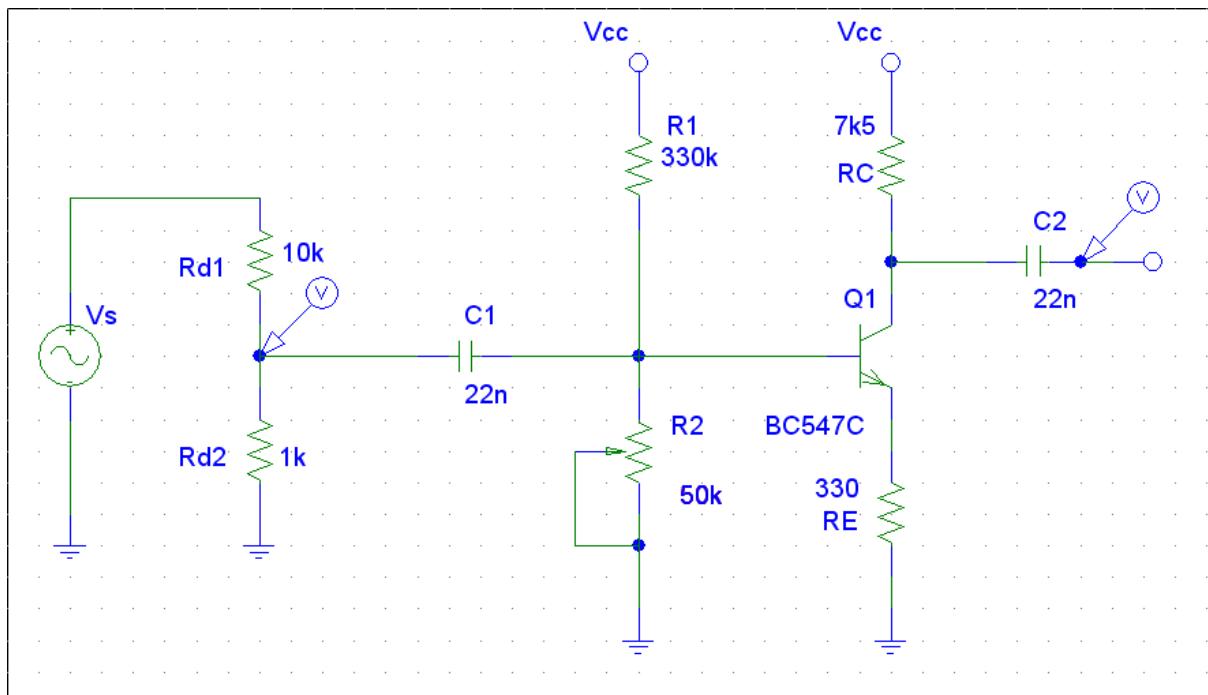

Fig. 3 BJT common-emitter amplifier with positive feedback.
1. Solder circuit illustrated in fig. 3.
6. Set the oscilloscope window to observe the input and output voltage  $V_{IN}$  and  $V_{OUT}$ . Set the cursors to calculate the amplification  $A_v$  of the circuit from fig. 3.